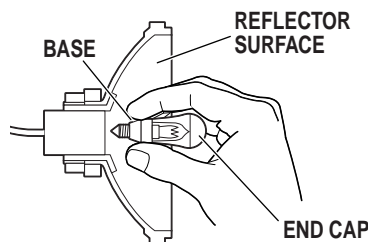

Figure 4.
3. Using caution not to touch the reflector surface, hold the bulb by the base, turn the bulb counterclockwise and remove it. See figure 4.